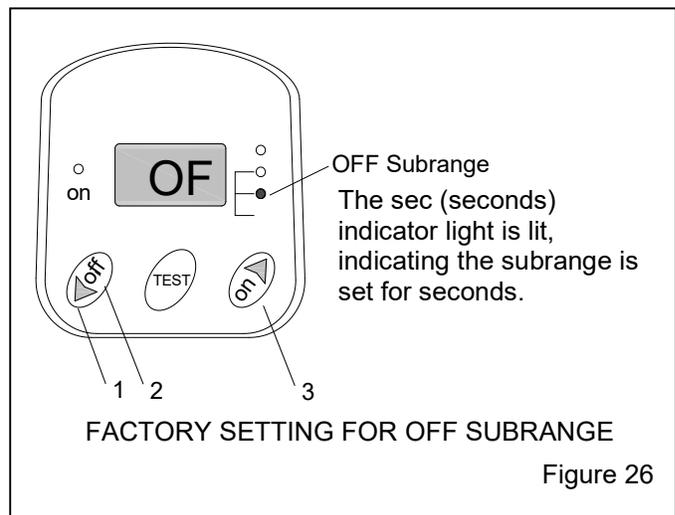
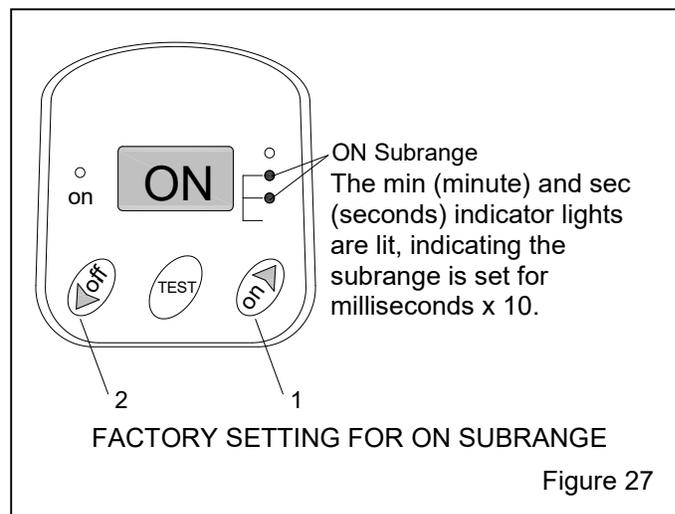

Figure 26
Figure 27
NOTE: There is no need to change ON time. ON time is factory set for 150 milliseconds (0.15 second), as shown in Figure 27. If ON time is accidentally changed, reset it to 150 milliseconds as follows:
1. Make sure the ON subrange is set to milliseconds, as noted in Section 5.8.5.2, Figure 27.
NOTE: The OFF subrange is factory set for seconds, as shown in Figure 26. The ON subrange is factory set for milliseconds. Each value shown on the LED is 10 milliseconds (1/100 of a second), as shown in Figure 27. There is no need to change subranges; if subranges are accidentally changed, reset them to factory settings, as follows:
5.8.5.1 Reset OFF (time between each pulse) subrange to factory setting of seconds, as shown in Figure 26:
5.8.5.2 Reset ON (duration of pulse) subrange to factory setting of milliseconds, as shown in Figure 27.